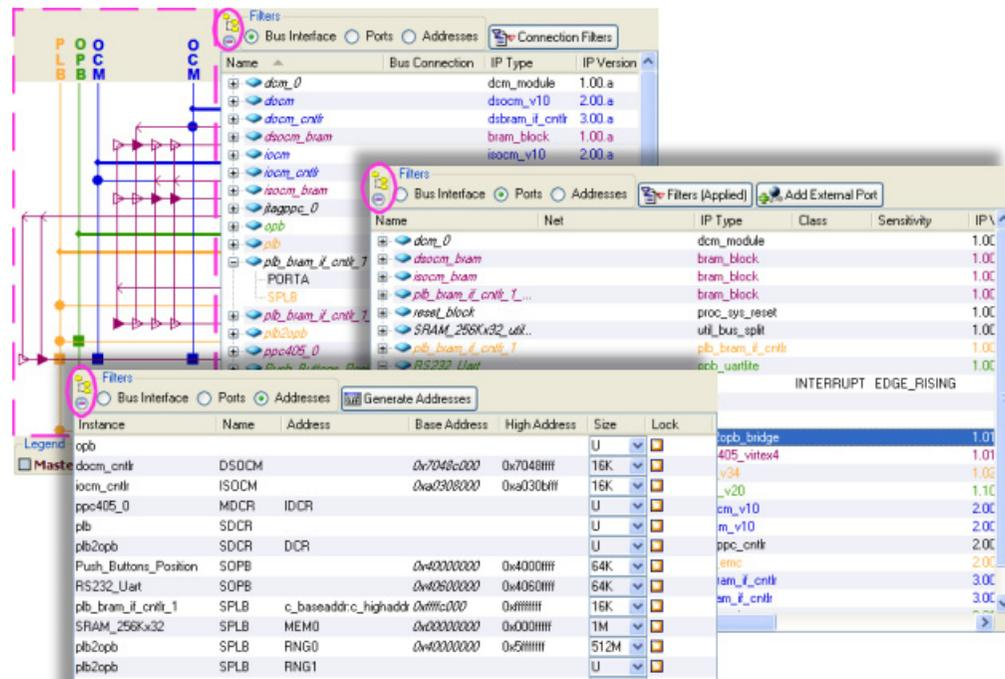

Figure 3-5: System Assembly Panel Views
With the Bus Interface filter selected, you'll see the Connectivity Panel, highlighted by the dashed line in Figure 3-5. The Connectivity Panel is a graphical representation of the hardware platform interconnects.
When you click the directory structure icon (circled in Figure 3-5), the ports are displayed either hierarchically or in a flattened, or flat, view.
- ◆ Click the directories icon (circled in Figure 3-5), and switch between the hierarchical and flat views.